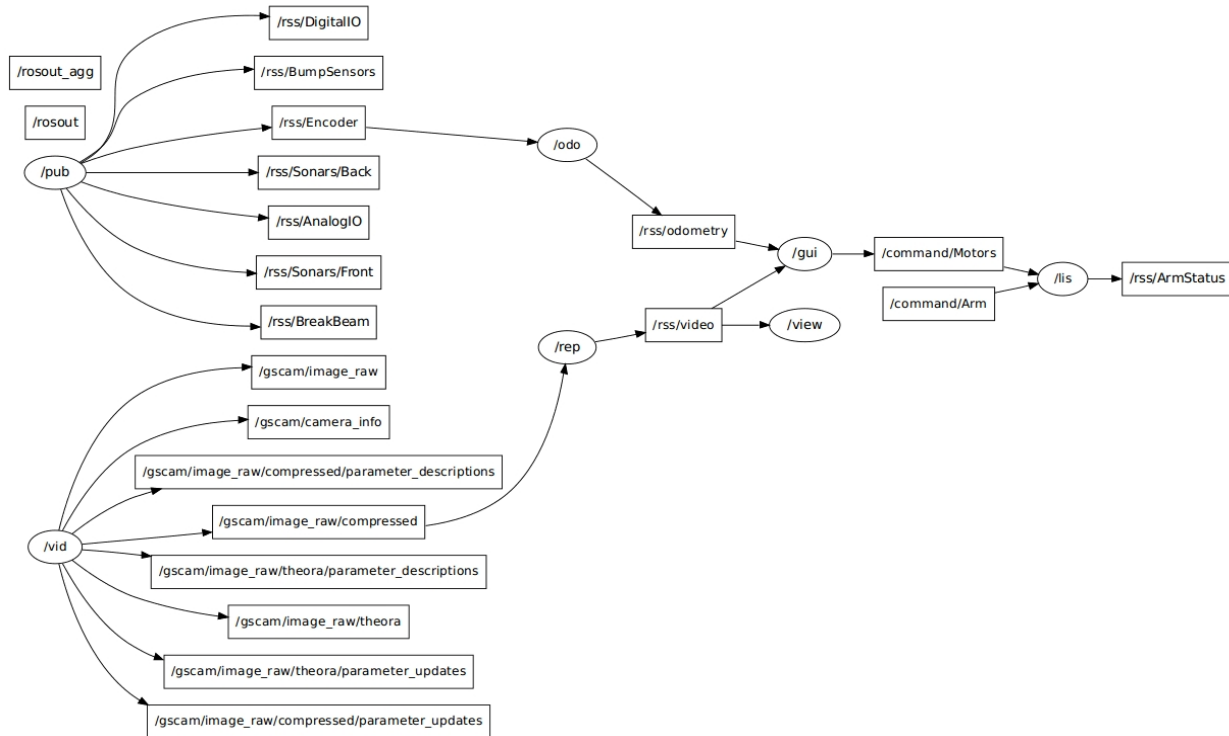

Figure 1: Example output of ROS nodes and topics
8. Use `rxgraph` to generate a complete graph showing the connections between all nodes. It should look similar to Figure 1. Upload this image to the wiki and write a short description (2-3 sentences) of each node's function.